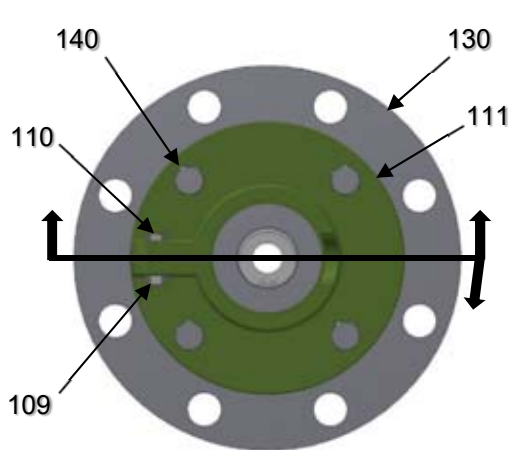

FIGURE 7
2.8 "L" Units – Closed Tank, Flange (ANSI / DIN) Mounted Lip Seal Module – The mixer housing module mounts in the bore of the Pedestal (111) for the ANSI / DIN option, which is secured by tightening the two hex head cap screws (110) and hex nuts (109), as shown in Figure 7. Tighten to 75 in. lbs. (8.5 N-m) maximum torque. Do not over tighten. Damage to equipment may result. The pedestal (111) then bolts to the mounting flange (130) with four hex head cap screws (140).